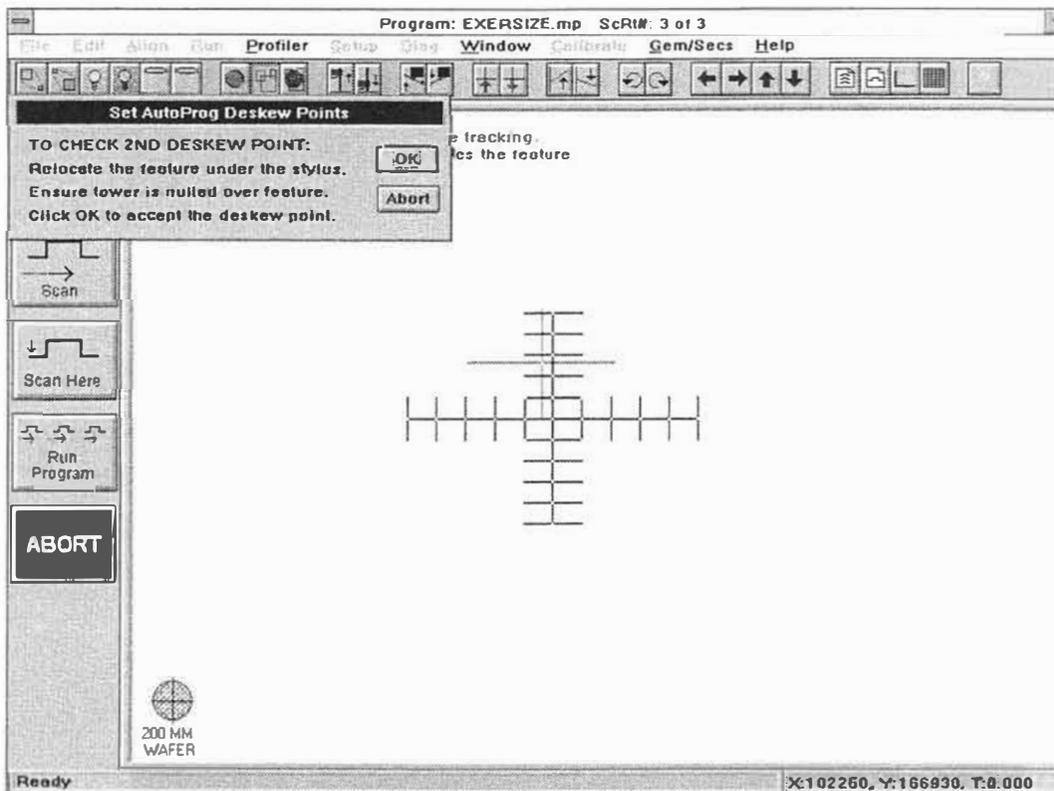

Figure 5-19. Checking the 2nd Actual Deskew Point
7. Click-on the software reticule to activate the stage. Roll the pointing device to relocate the visually identifiable landmark selected as the second reference deskew point. Line up the software reticule with the lower left corner of the calibration standard as shown in Figure 5-19.